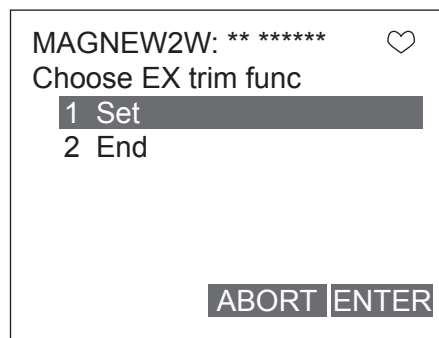
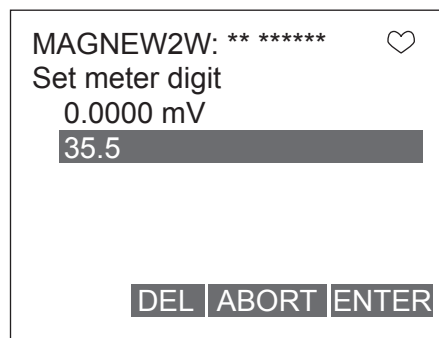

Figure 7-62
Figure 7-63
5. Figure 7-62 will appear. When executing the adjustment, choose “SET” and press F4 (ENTER).
6. A numerical value input display (Figure 7-63) will then appear. Resistance of 10ohm is in between the check pin. Therefore, when the excitation current is 3.5 mA, approx. 35 mV will be output. Measure this value, and input the value by the mV directly. Press F4 (ENTER). The converter will start adjusting to 3.5 mA automatically, and return back to the display as shown in Figure 7-62. Verify that the excitation current value is 3.5 mA, and terminate the adjustment.